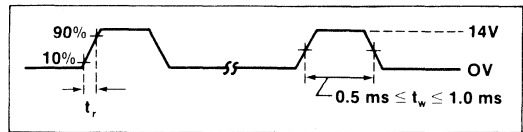

Figure 3. Protect Programming Pulse
Step 2: Taking one pin at a time, apply a protect programming pulse (Figure 3) to each user-bus bit ( $\overline{UD0}\text{-}\overline{UD7}$ )—refer to Table 3 for min/max specifications pertaining to voltage and current.